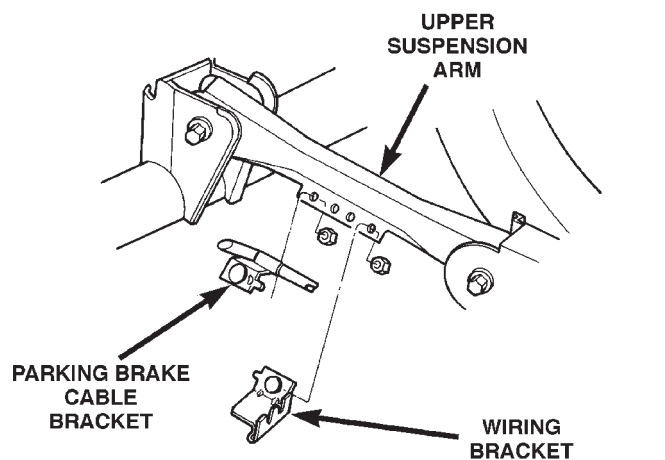

Fig. 39 Parking Brake Cable Bracket
- (3) Remove cable bracket from upper suspension arm (Fig. 39).
- (4) Remove rear wheel and brake drum.